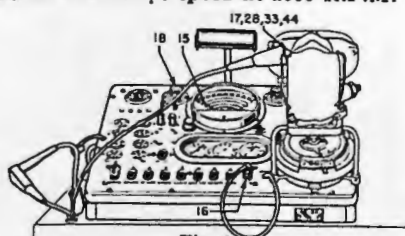

Fig. 4
- 28 Ground positive low tension lead to distributor case (Fig. 4).
- 33 Ground positive low tension lead to distributor case (Fig. 4).
- 44 Stop stroboscope and connect positive low tension lead to distributor case (Fig. 4).